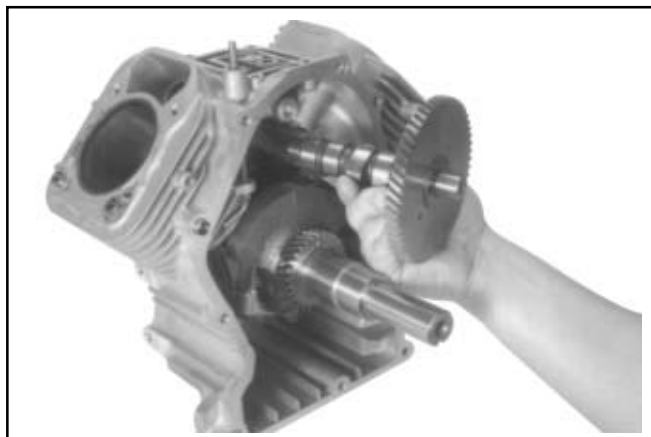

Figure 9-50. Removing Camshaft.
1. Remove the camshaft and shim. See Figure 9-50.